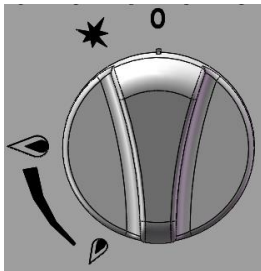

Fig. 2
- ①Align the control valve knob on the "0" position (Fig. 2), so that the valve is closed.
②Axial press the knob to rotate knob clockwise continually, so that the direction of the knob on the "0" position, at this time, the fire extinguished, the valve closed(Fig.2).